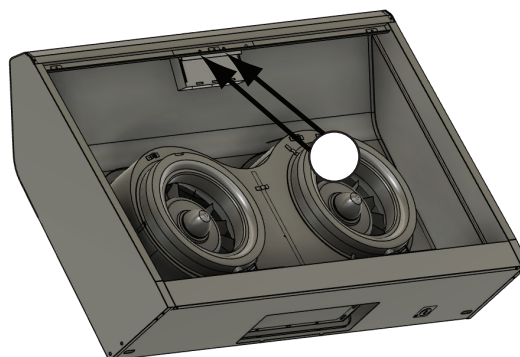

FIG. D4
2. Remove PC board plate by 2 screws (FIG. D4).